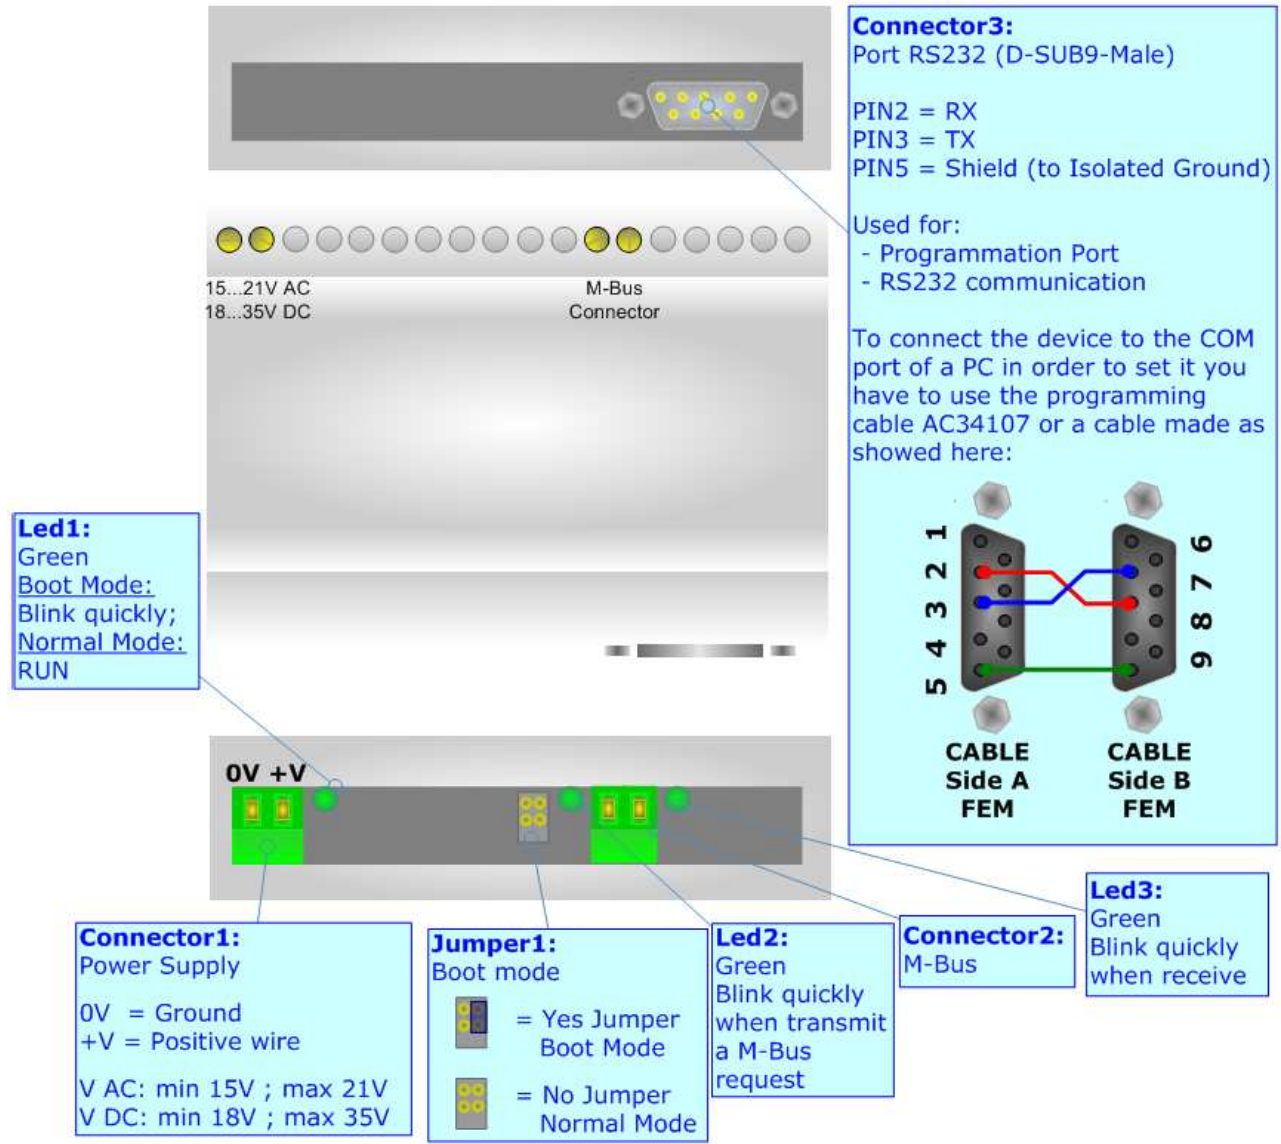
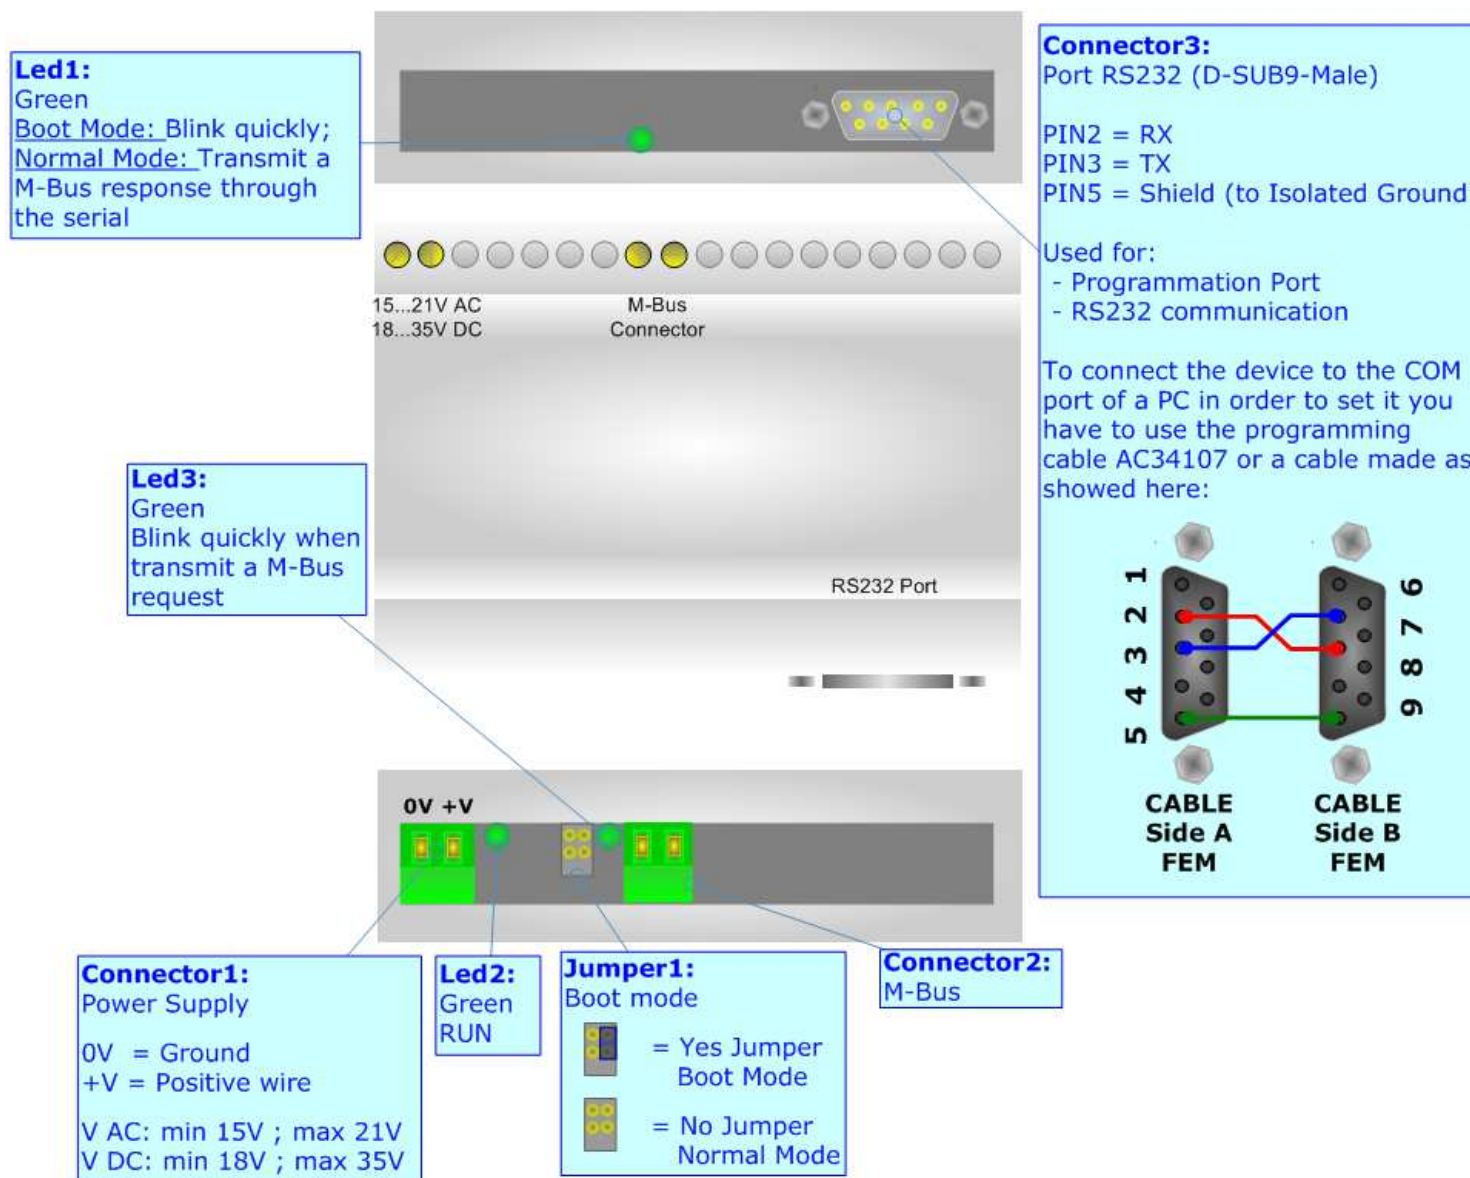
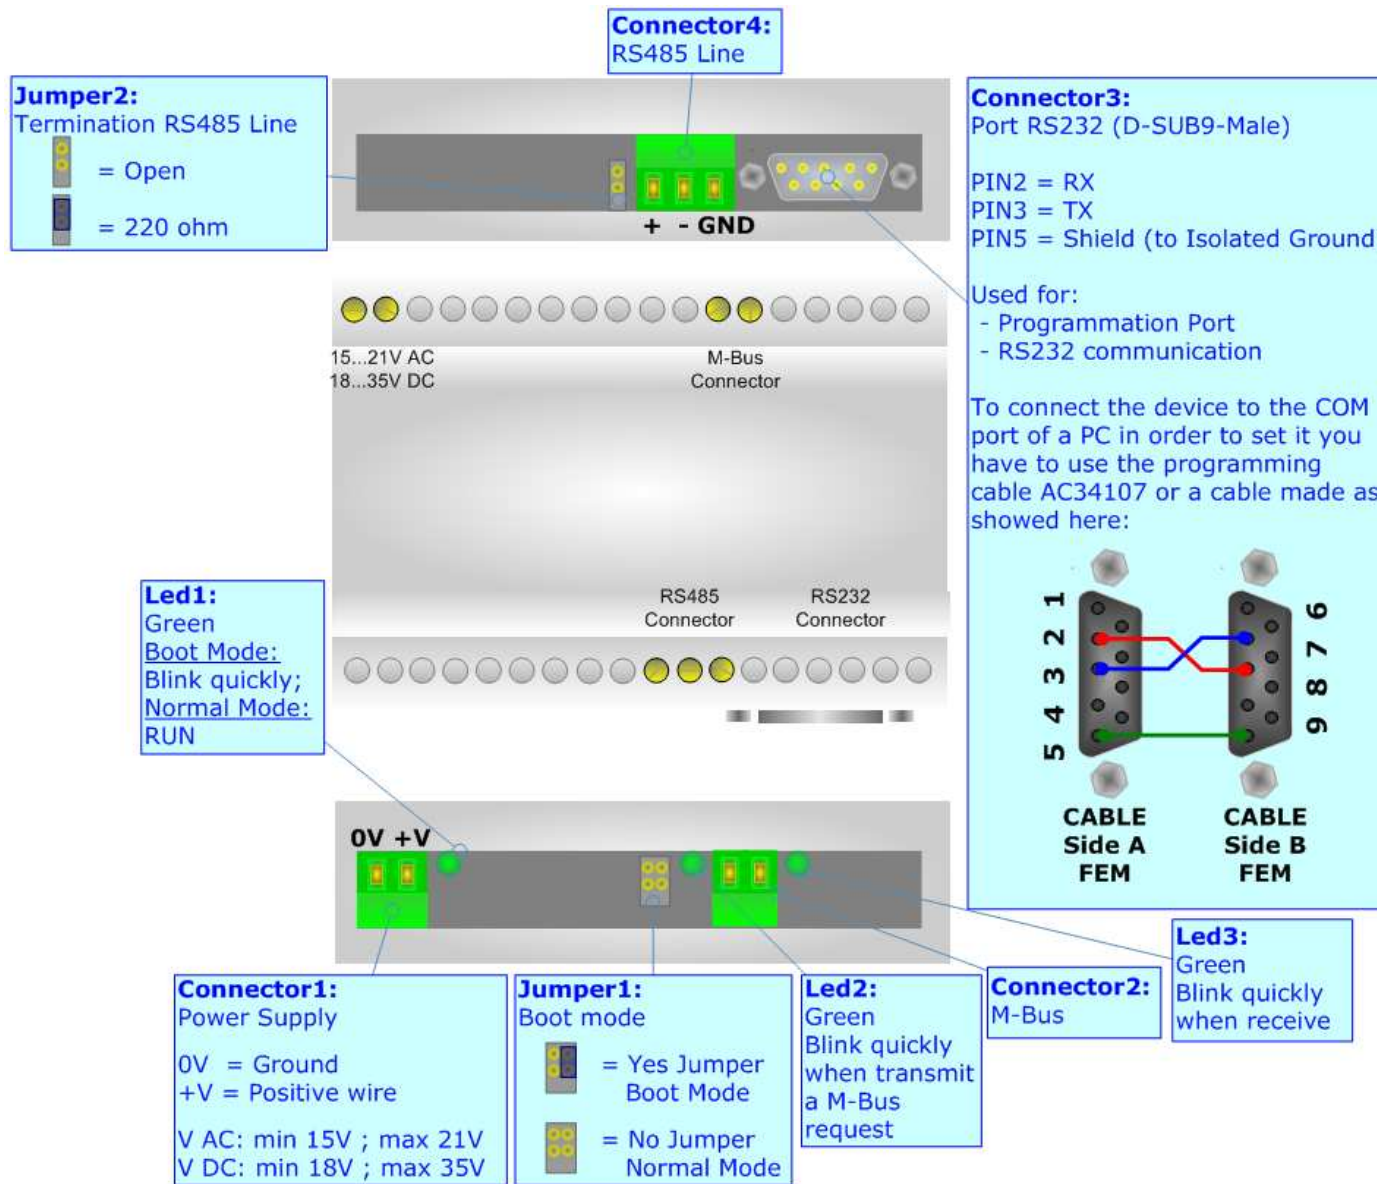
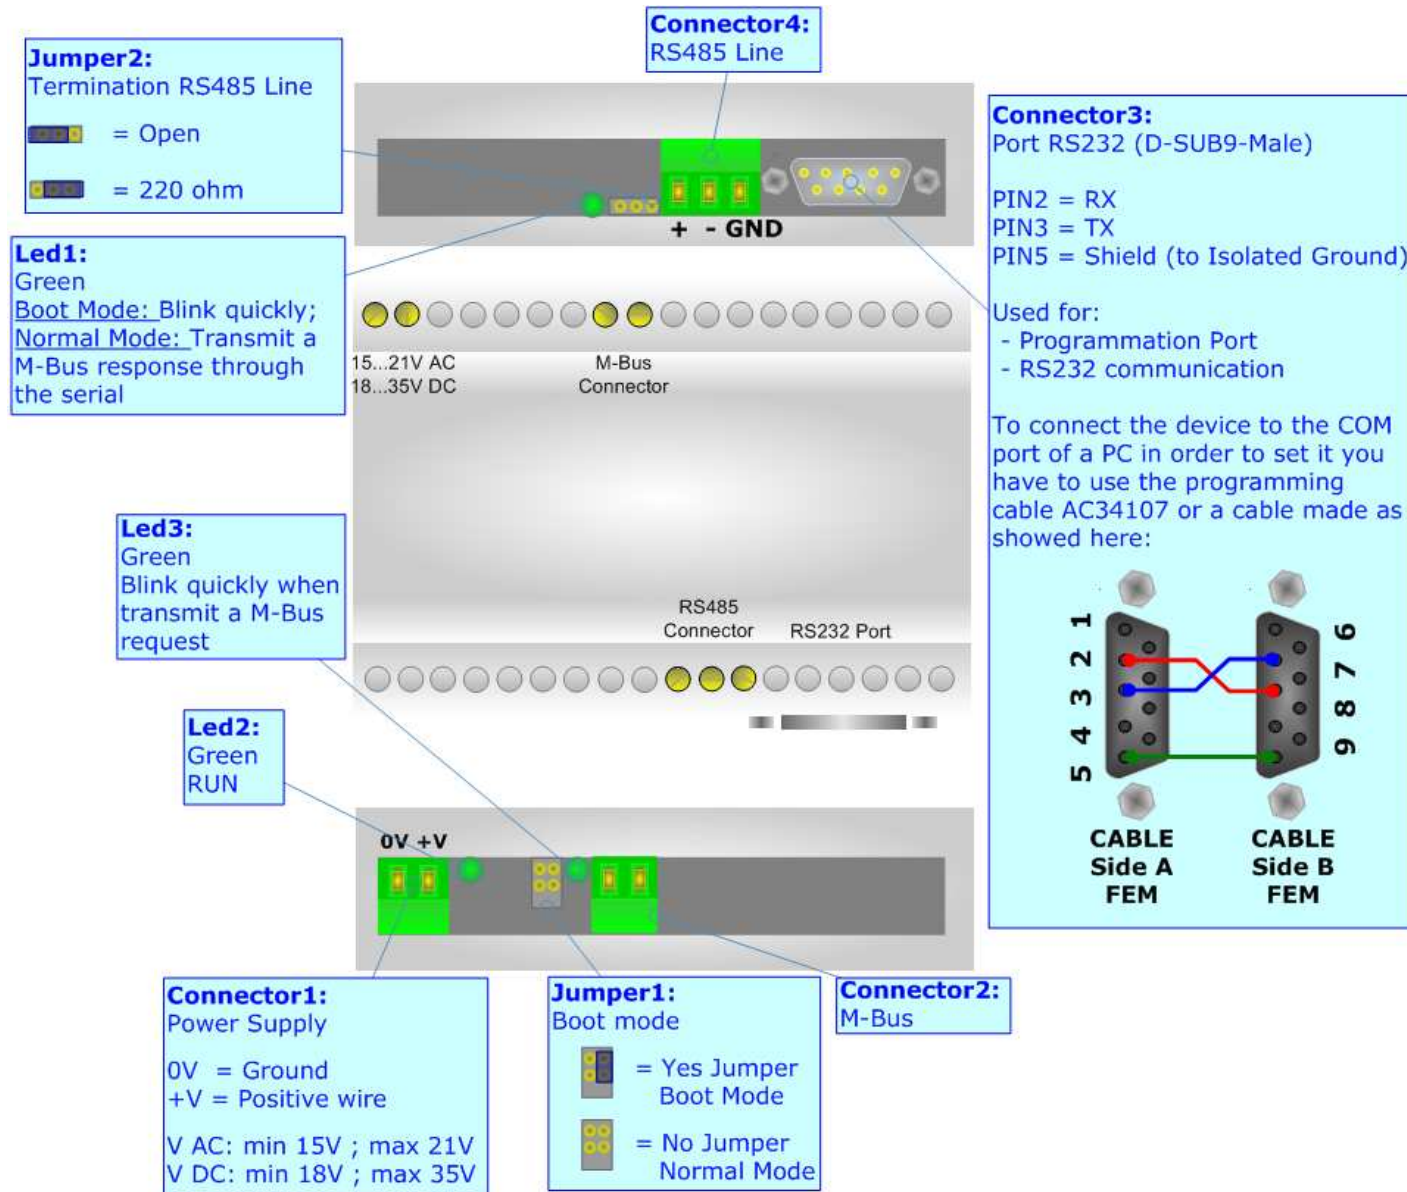

Figure 1: Connection scheme for HD67021M-20
Figure 2: Connection scheme for HD67021M-40, HD67021M-80, HD67021M-160, HD67021M-250
Figure 3: Connection scheme for HD67022M-20
Figure 4: Connection scheme for HD67022M-40, HD67022M-80, HD67022M-160, HD67022M-250
The functions described above shall be made when the device is in Boot. For more details about Boot see "Connection Scheme" (Fig. 1, Fig. 2, Fig. 3, Fig. 4).
- Insert the Boot Jumper (see the Fig. 1, Fig. 2, Fig. 3, Fig. 4 for more info);